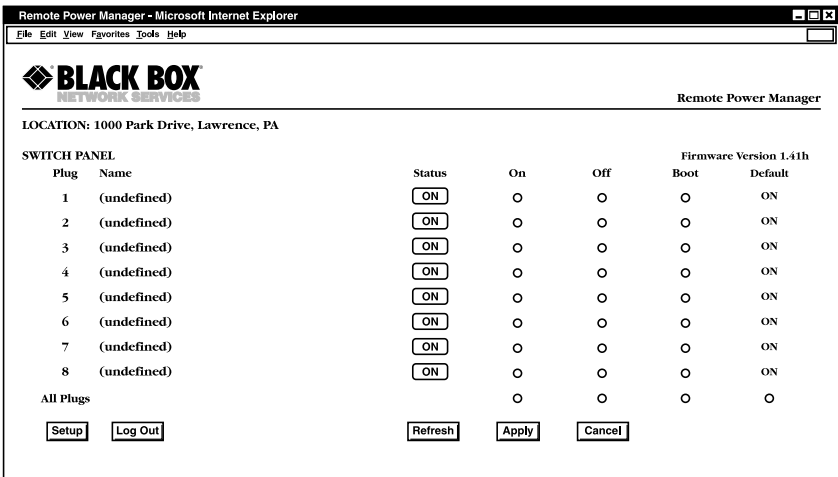

Figure 5-1. Plug Status menu—Web browser interface.
When you log into the power manager’s command mode using a standard JavaScript® enabled Web browser interface , the first screen that appears is the Plug Status screen (or Switch Panel). The Plug Status screen (Figure 5-1) lists the current on/off status of the power manager’s switched outlets and provides a series of buttons that are used to control on/off/boot switching of the outlets.
2. When the Plug Status screen (Figure 5-1) appears, note that the screen includes a status field and on/off/boot controls for each of the power manager's switched AC outlets.